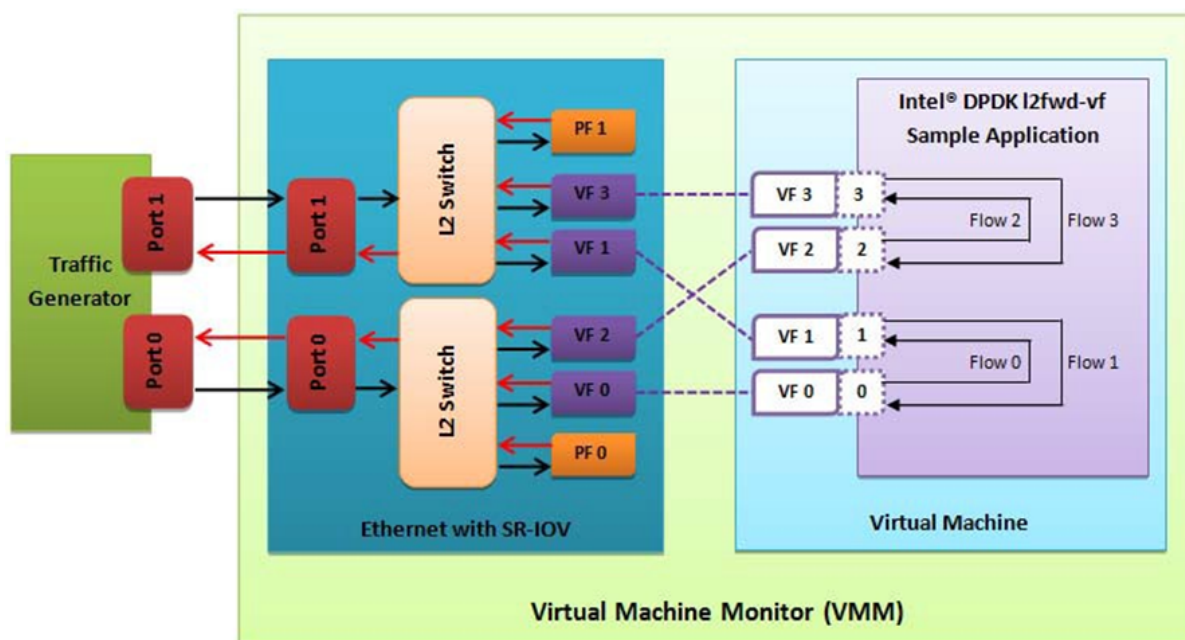

Fig. 22.2: Performance Benchmark Setup
- The Virtual Machine Monitor (see Fig. 22.2) is equivalent to a Host OS with KVM installed as described in the instructions.